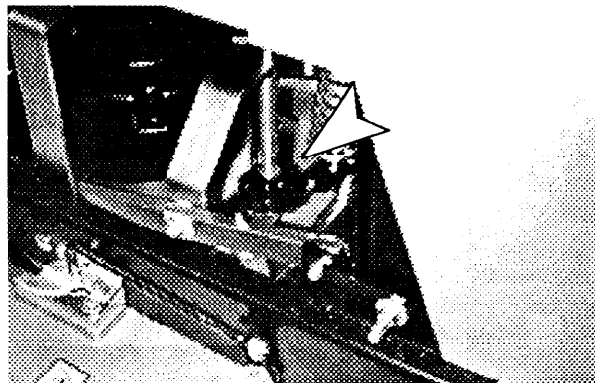

FIG. 26.
2. Reach under the frame between the drive wheel and the pad shroud and locate a plastic knob. (Figure 26)